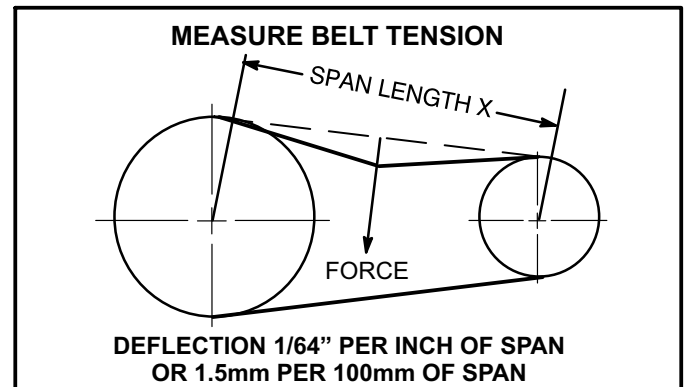

FIGURE 15
- 1 Measure span length X. See figure 15.
- 2 Apply perpendicular force to center of span (X) with enough pressure to deflect belt $1/64$ " for every inch of span length or 1.5mm per 100mm of span length.